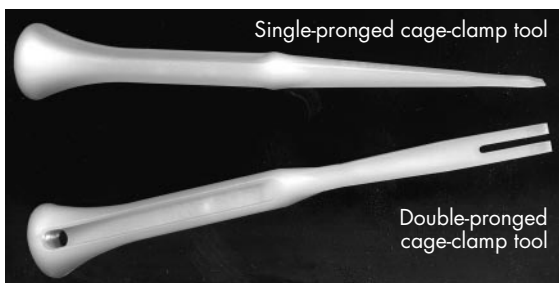
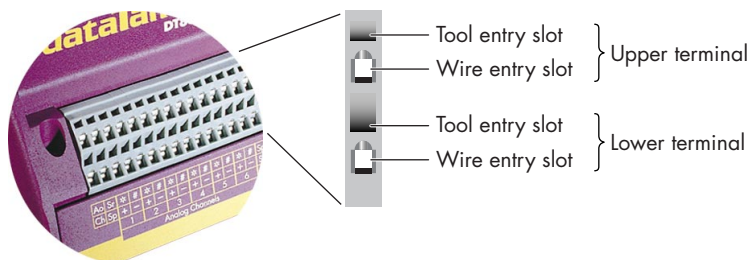

FIGURE 13 Cage-clamp tools
FIGURE 14 Two of the DT800's cage-clamp terminals on the front panel
- 2 Firmly press the tip of one of the cage-clamp tools (supplied with your *dataTaker*) into the terminal’s tool entry slot at a 45° angle (Figure 13 and Figure 14). This opens the spring clamp in the terminal’s wire entry slot. You can remove your hand from the cage-clamp tool while you insert the wire — the tool stays in place, wedging the clamp open.